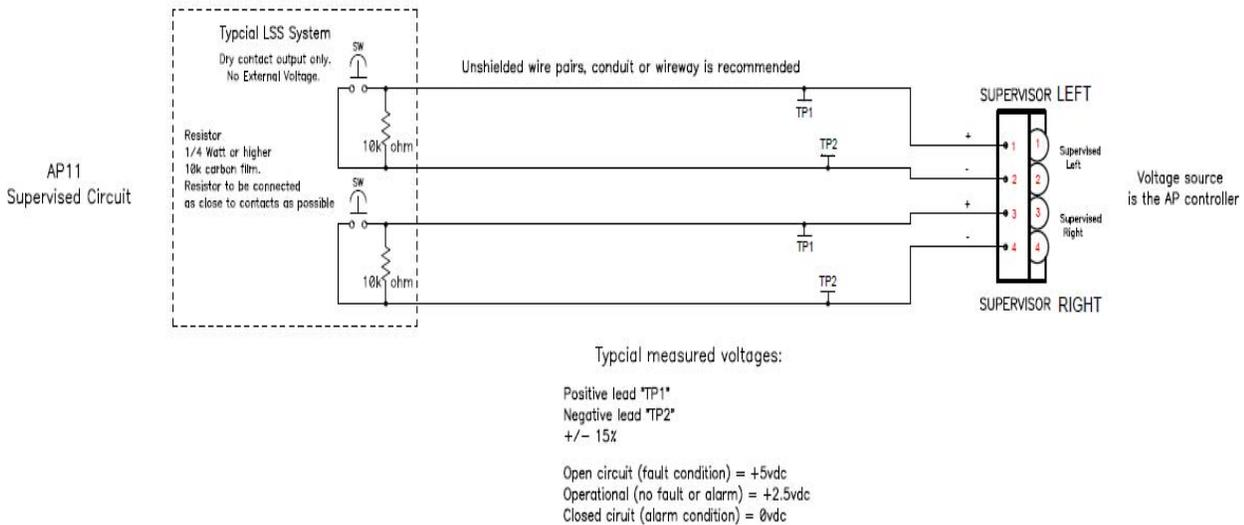

Figure 2-6: Supervisory Input Wiring
* Each digital-input can be individually configured to provide a hardwire shutdown alarm function. Figure 2.6 shows the location of SW1 & SW2 hardwire switches.